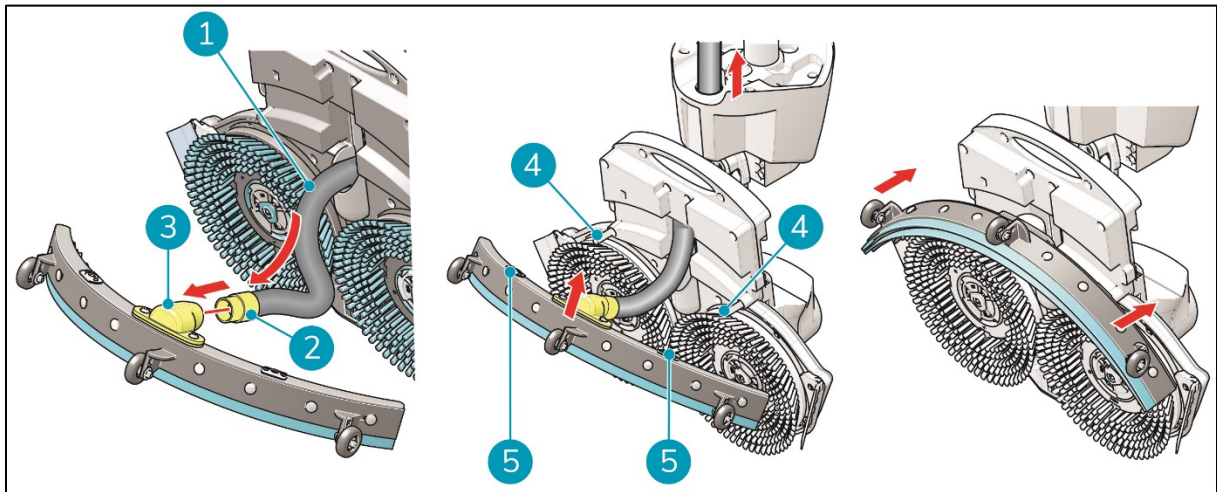

Figure 33
1. Take the vacuum hose (Figure 33, pos 1).
2. Insert the hose connector (Figure 33, pos 2) in the squeegee (Figure 33, pos 3).
3. Twist the hose connector 1/4 turn for a firm fit (Figure 33, pos 2).
6. Align the pins on the scrub deck (Figure 33, pos 4) with the holes on the squeegee (Figure 33, pos 5).